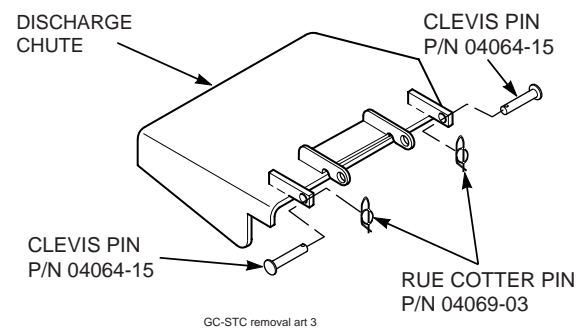

Figure 8
7. Re-install the side discharge chute to the opening on the cutter deck. Replace the two outside mounting bolts on the discharge chute with the clevis pins (p/n 04064-15) and rue cotter pins (p/n 04069-03). See Figure 8.